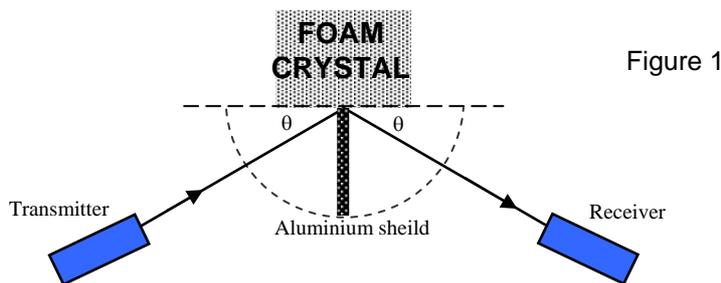

Figure 1
1. Align one straight edge of the 'foam crystal' along the base of the large protractor as shown in figure 1.
4. Point the microwave transmitter toward the face of the 'foam crystal' at an initial angle of ~30°. Similarly align the receiver at 30° to the face of the 'foam crystal' to detect the reflected beam. See figure 1. (Hint: using 1 metre rulers to align the receiver and transmitter can save considerable time in setting up)